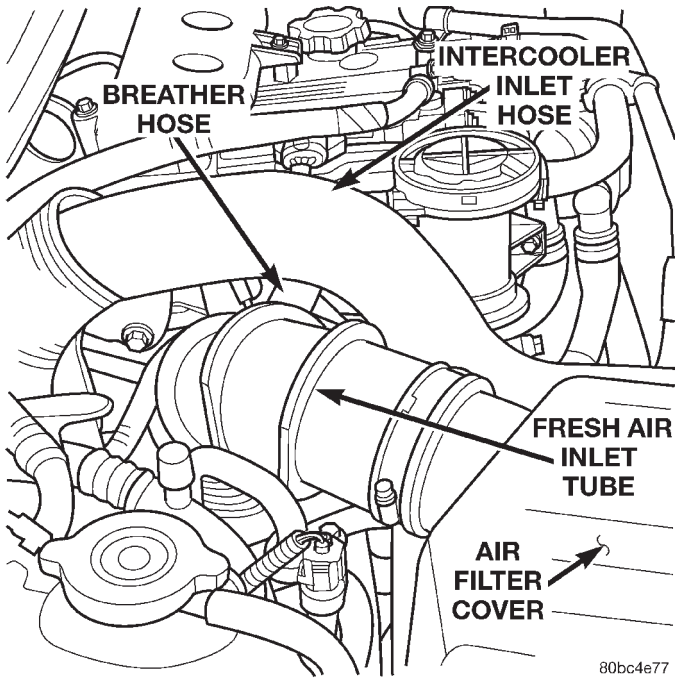

Fig. 37 Air Intake Hoses
(5) Disconnect the turbocharger oil return hose from the turbocharger.
(6) Lower the vehicle on the hoist.
(7) Remove the intercooler inlet hose from the vehicle (Fig. 37).
(8) Disconnect the breather hose from the fresh air inlet tube (Fig. 37).
(9) Unclip the air filter cover and remove the fresh air inlet tube from the turbocharger (Fig. 37). Remove the assembly from the vehicle.